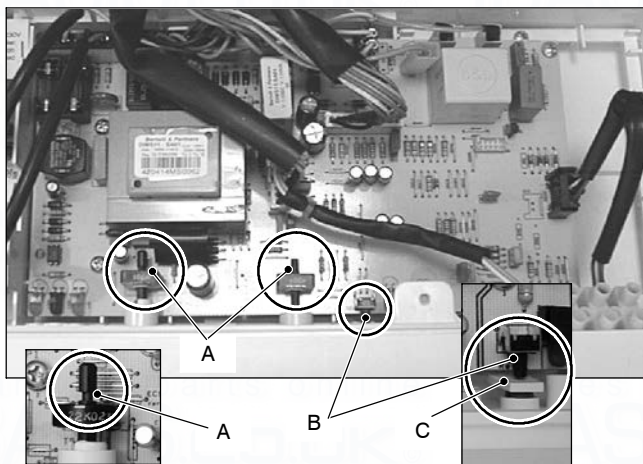

Fig. 49
- 8 Insert the spindles in the control panel knobs until the notch **A** (Fig. 49) reaches the potentiometer edge. It is not necessary to force them in the knob.
- 9 While tightening the screws that fix the Electronic control/ignition p.c.b. on the control panel, keep the p.c.b. towards the control panel fascia making sure of the contact between the boiler reset button **B** and the tab **C** (Fig. 49).